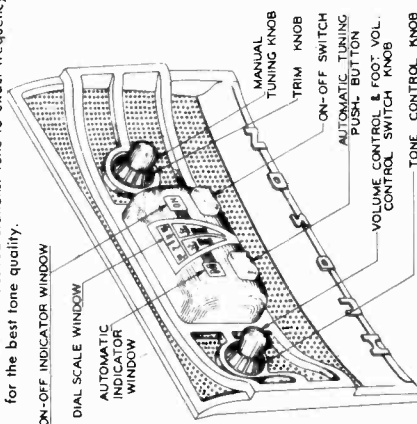

Fig. 1. Operating Controls.
11. Fasten the controls in place as shown in figure 1.
1. Locate the roof hole by laying the metal template (furnished with the antenna kit) along the upper end of the windshield divider strip as shown in Fig. 1. Prick punch two holes at the word marked "Closed" on template as shown. Be careful not to allow the drill or cutter to punch a hole through the headlining. The accurate drilling of the lower edge of the bottom hole is important for the correct fitting of the roof tube and the smooth operation of the aerial. Cut out the metal between the lines as shown in Fig. 2.